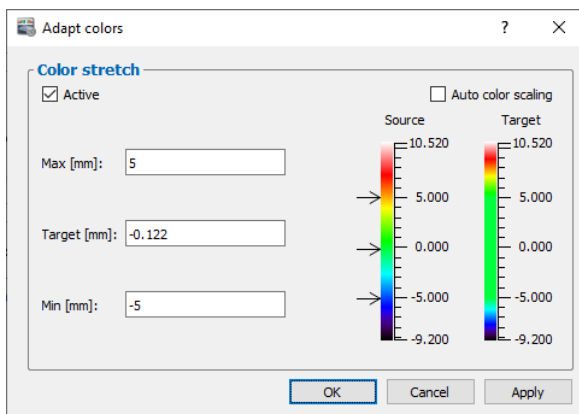

Fig. 3.39: "Adapt colors" dialog box
- **Adapt surface colors...:** You can vary the selected color palette and adapt it to your needs (see Fig. 3.39). The target color value will be stretched between the upper and lower limit. The color values outside the upper and lower limit will be shrunk.